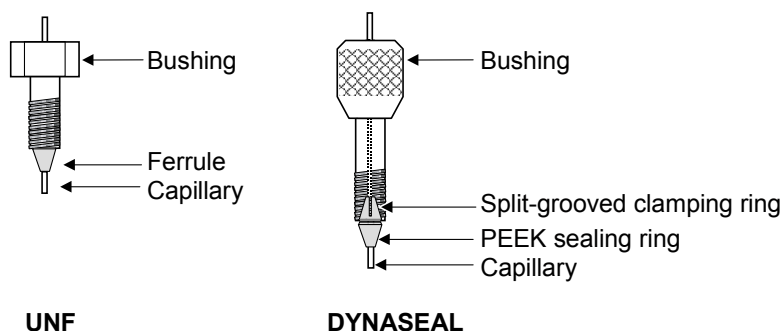

Fig. 15 Principle of the UNF- and DYNASEAL connections
1. Push the bushing, the clamping ring, and the sealing ring onto the capillary (for standard connections just use the respective bushing and clamping ring). Please take care to note the sequence and orientation of the fittings according to Fig. 15.